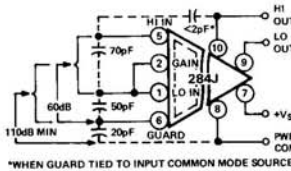

Figure 6. Model 284J Terminal Capacitance and CMR Ratings
**Capacitance:** Interelectrode terminal capacitance arising from stray coupling capacitance effects between the input terminals and the signal output terminals are each shunted by leakage resistance values exceeding 50kMΩ. Figures 6 and 8 illustrate the CMR ratings at 60Hz and 5kΩ source imbalance between signal input/output terminals, along with their respective capacitance.